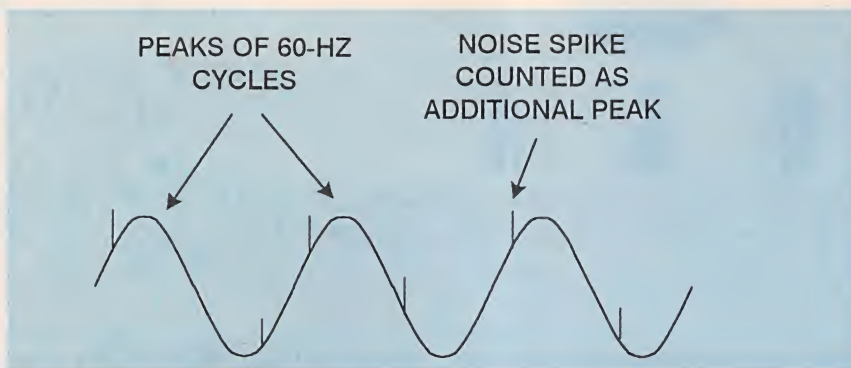

FIG. 3—NOISE SPIKES in the electrical power lines could make a digital clock run fast.
**A** Two words: *electrical noise*. As shown in Fig. 3, a line-powered digital clock keeps time by counting cycles of the 60-Hz AC power. (This is normally more